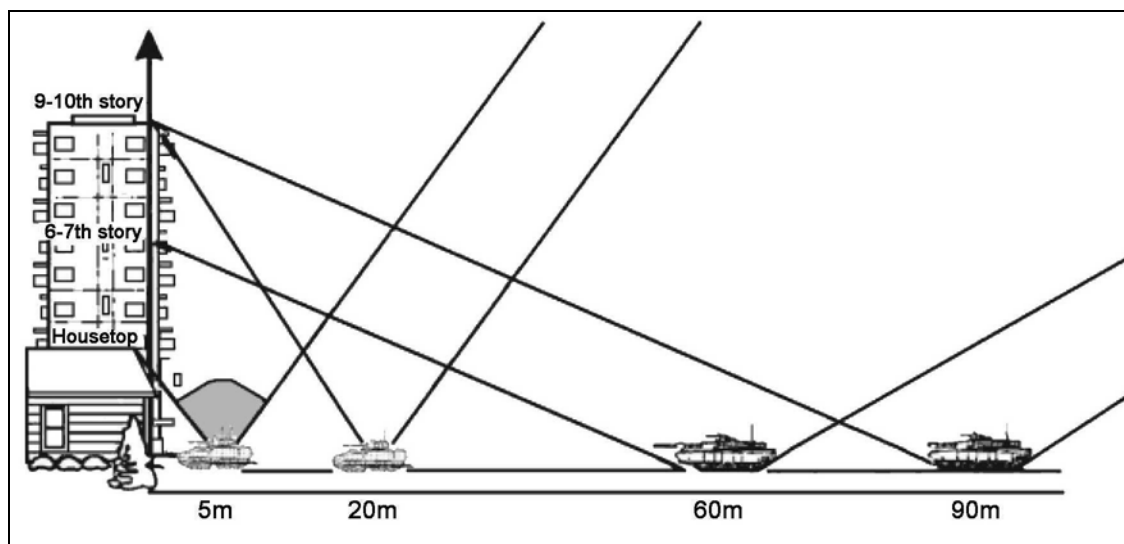

Figure E-1. Comparison of M1 and BFV fields of fire.
- d. **Fields of Fire.** Figure E-1, page E-2, compares the BFV's and the M1 tank's fields of fire on urban terrain. The BFV can engage a target nine to ten stories high at 20 meters, whereas an M1 tank requires 90 meters.